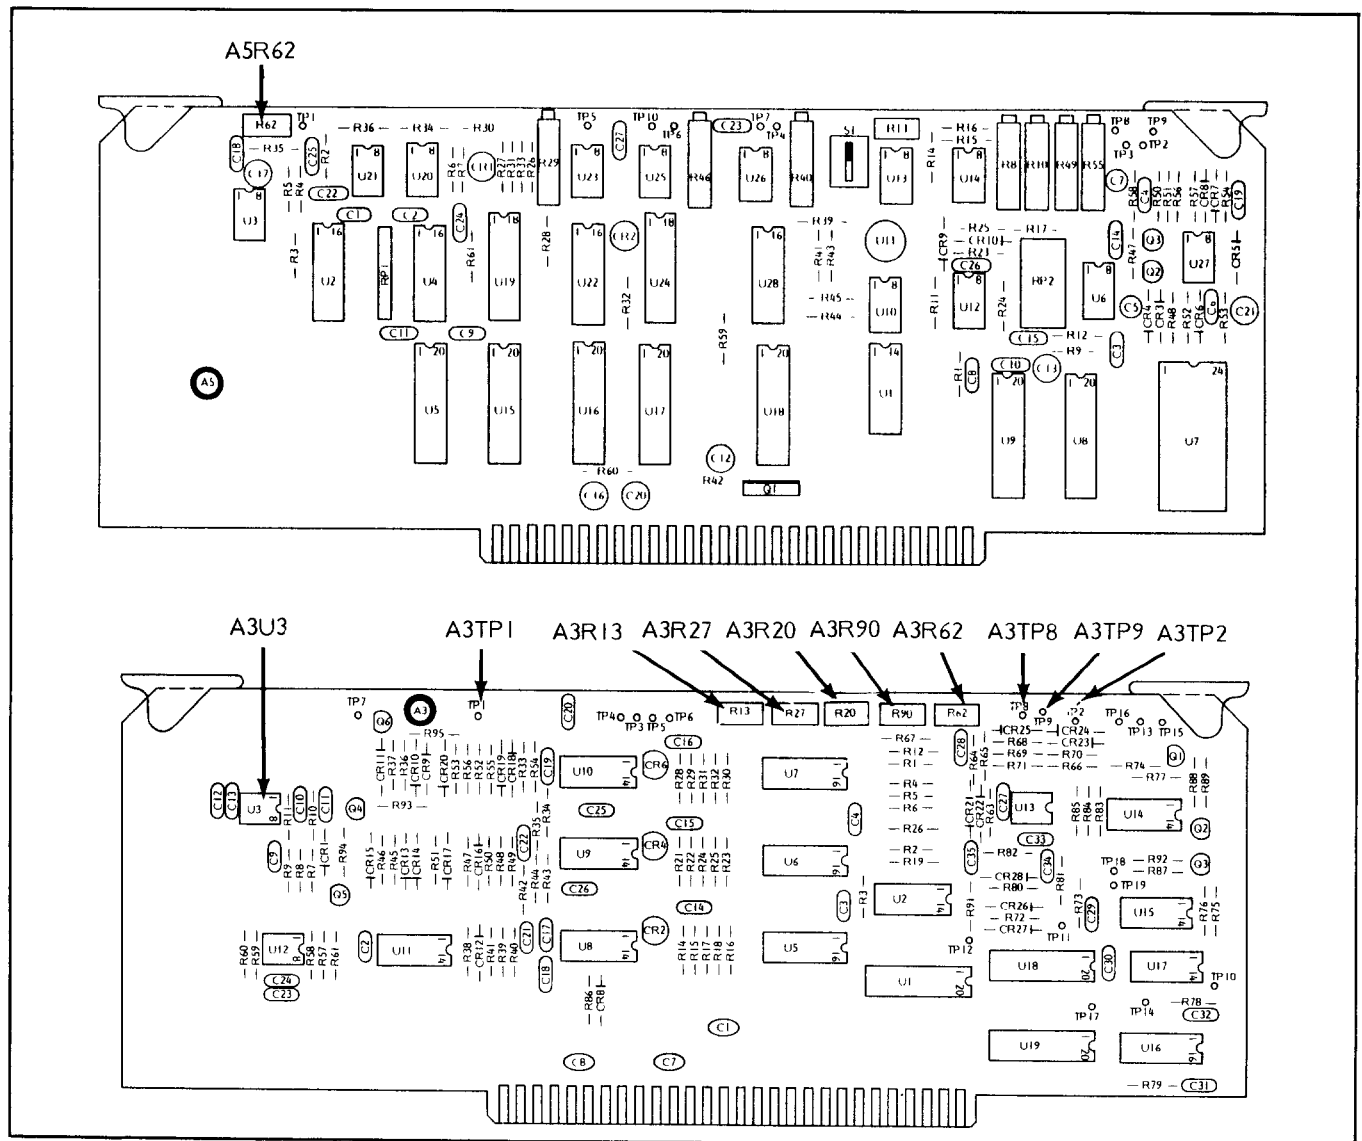
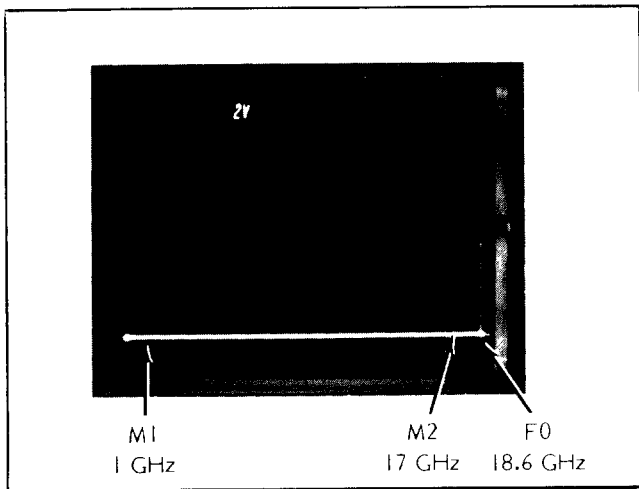

Figure 5-12. A3 Marker Generator Adjustments
Figure 5-13. F0, M1, and M2 Markers
3. With a digital multimeter (DMM) referenced to A3TP1 (Figure 5-12),
- (b) adjust A5R62 (Figure 5-12) for  $0V \pm 1.0mV$ .
- (d) adjust A3R13 (Figure 5-12) until the F0 marker is just visible on the right edge of the oscilloscope display, as shown in Figure 5-13;
- (b) adjust A3R13 (Figure 5-12) until the F0 marker is just visible on the right edge of the 560 display, as shown in Figure 5-14.
6. Move the INCREASE-DECREASE lever to its full INCREASE position, and adjust A3R62 (Figure 5-12) for  $+4.8\text{V} \pm 20\text{mV}$ .